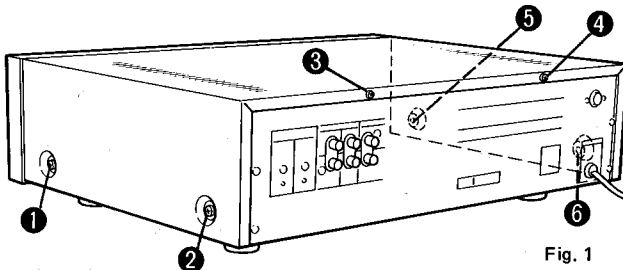

Fig. 1
① CABINET TOP REMOVAL
Remove the screws ① to ⑥ in Fig. 1 and then remove the cabinet top.